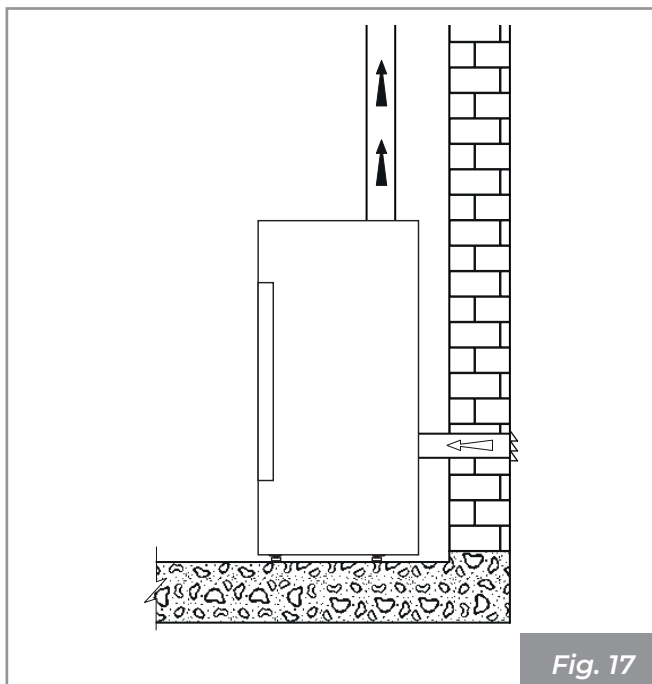

Fig. 17
- to connect the combustion air inlet of the appliance to the air intake using a dedicated pipe (**Fig. 16 - Fig. 17**).